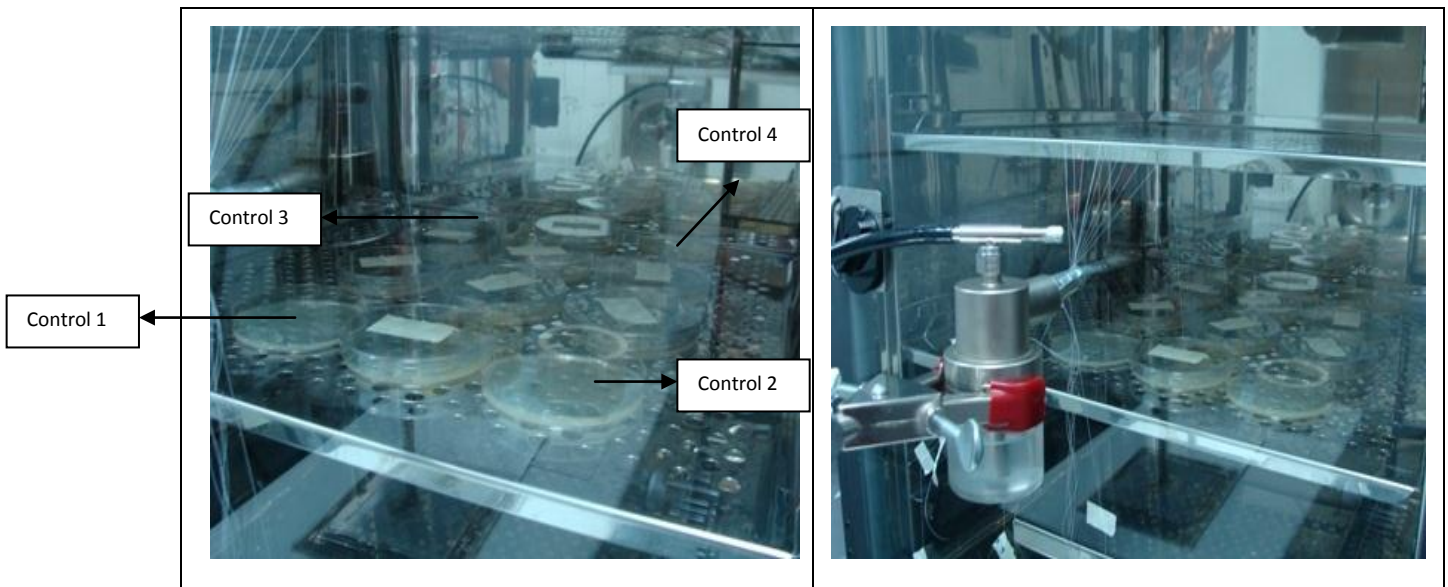

Figure 1. Agar Plates set up on tray with nebulizer
- d) Cover the tray with 90 mm petri dish. See Figure 1